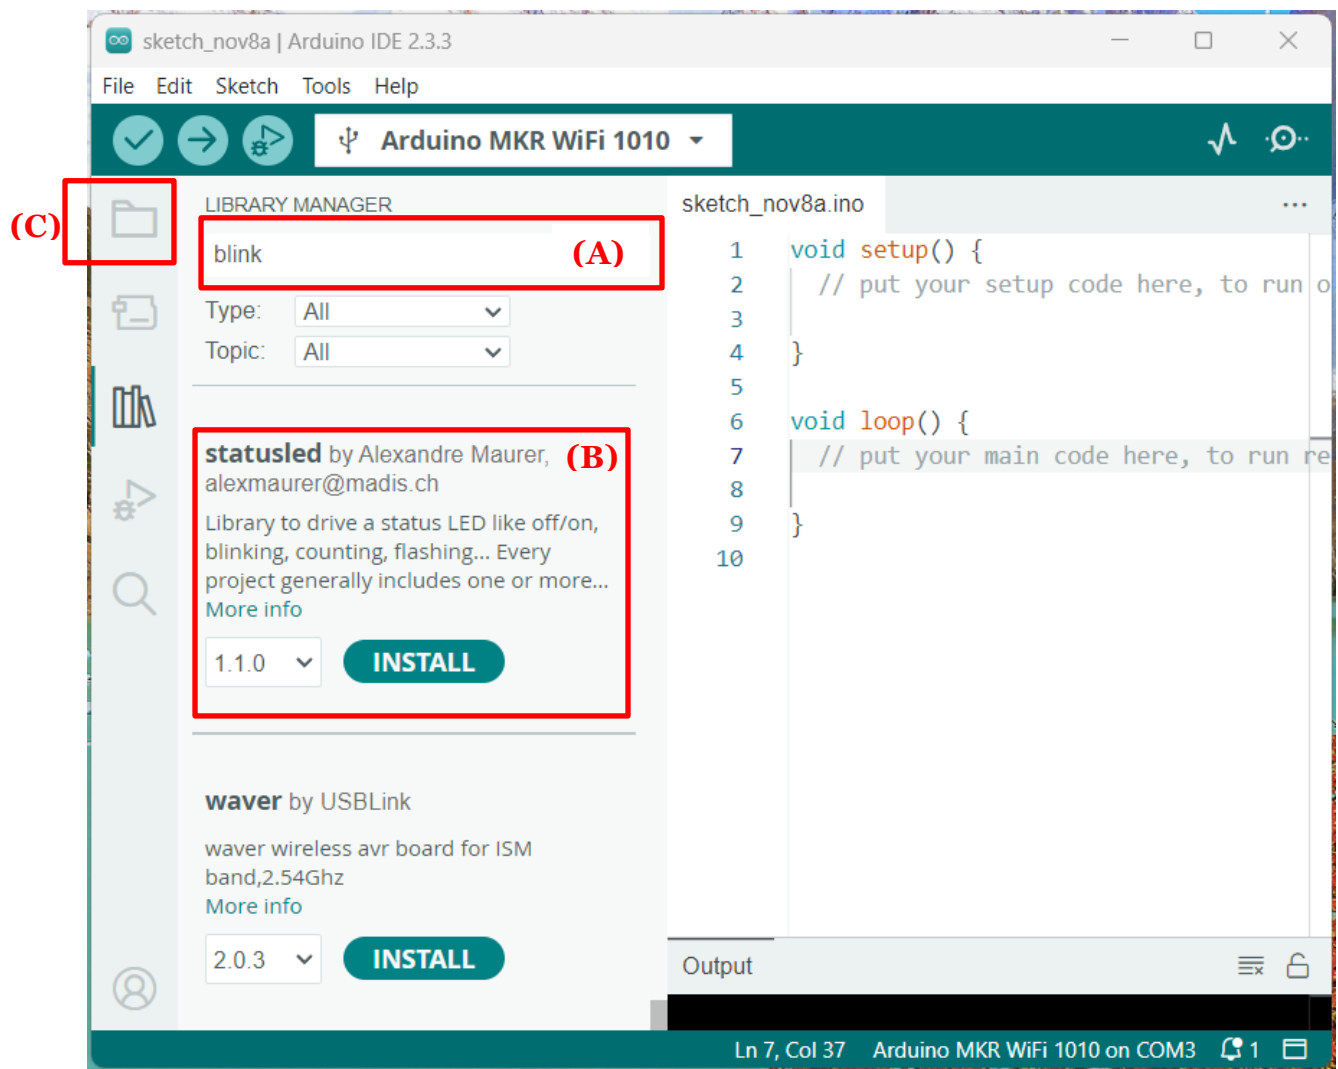

Figure 5.2 – Installing a StatusLED Library
Let's try one example to install a **StatusLED** library for Arduino Board. Use the Library Manager and enter the keyword **blink** into the search area as shown in Figure 5.2 (A). You will see a list of libraries with the keyword. Browse through the list and click on **INSTALL** button to install the **statusled** library as shown in Figure 5.2 (B).
Once the library has been successfully installed, you will see the word **installed** beside the library name. Up to this stage, you have invoked the Arduino IDE Library Manager to install a library that provides Status LED functionality for the Arduino Board. Click on the **Folder Icon** as shown in Figure 5.2 (C) to exit the Library Manager.